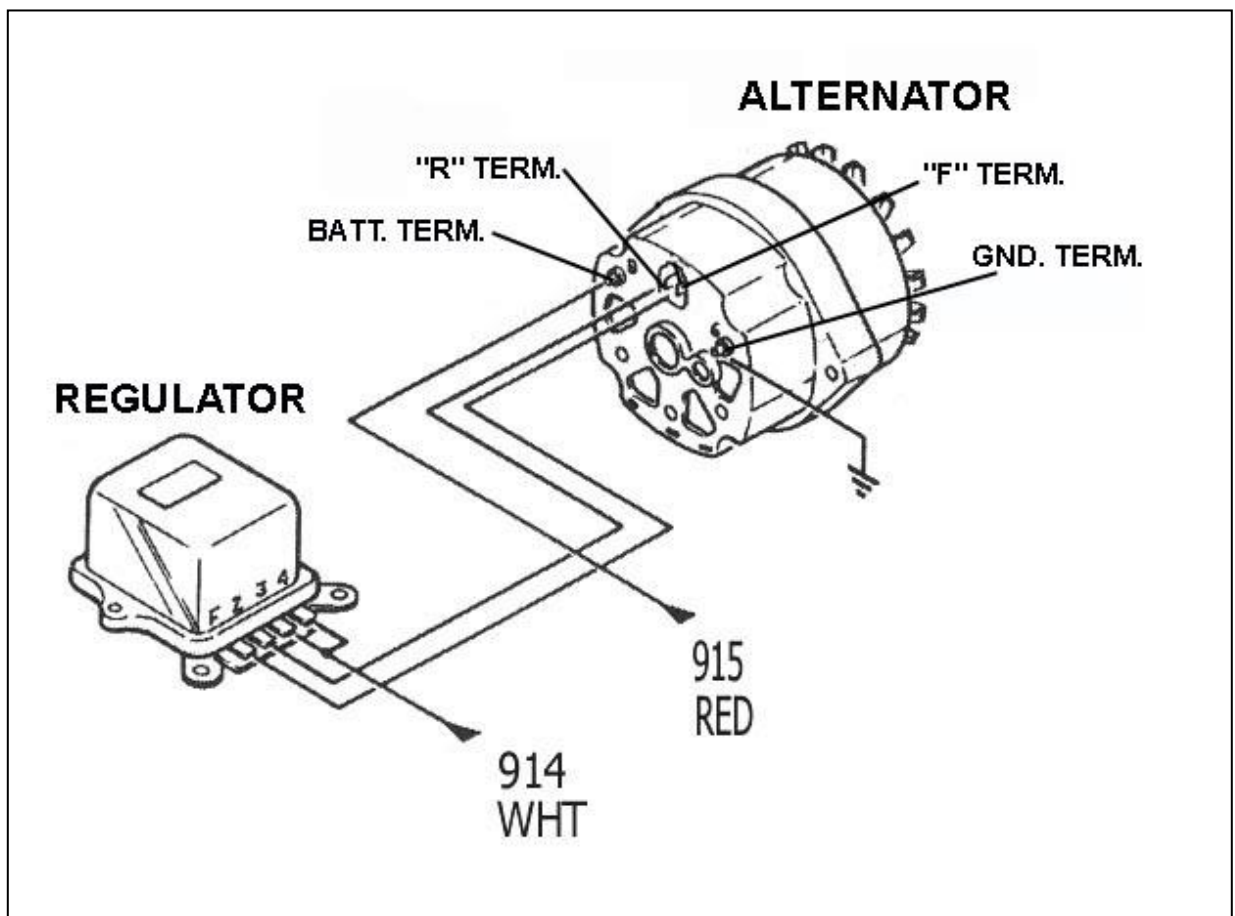

Figure 7-1 Early GM Alternator - External Regulator
7.1 Early GM Alternator (before 1969) - External Regulator. See Figure 7-1.